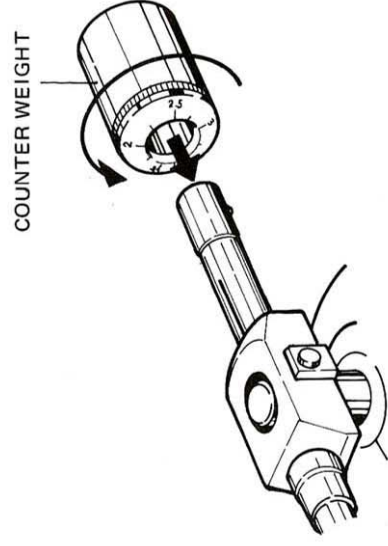

Fig. 3
4. Carefully slide the turntable platter over the turntable shaft and place the rubber mat on the turntable platter. Attach the counter weight to the rear of tone arm by turning it clockwise (Fig. 3). Place the 45 rpm adaptor in its appropriate rest position.